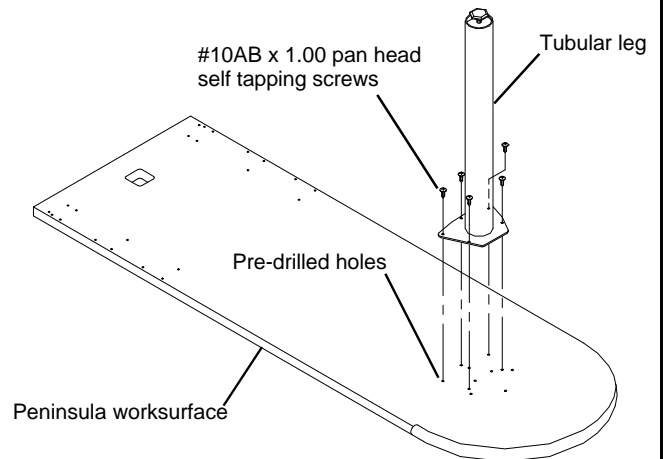

Figure 5
5. Attach the **Tubular Leg** to the worksurface. Align the holes in the mounting plate with the appropriate holes in the worksurface and secure using the five #10AB x 1.00" Pan head self tapping screws provided. See **Figure 5**.